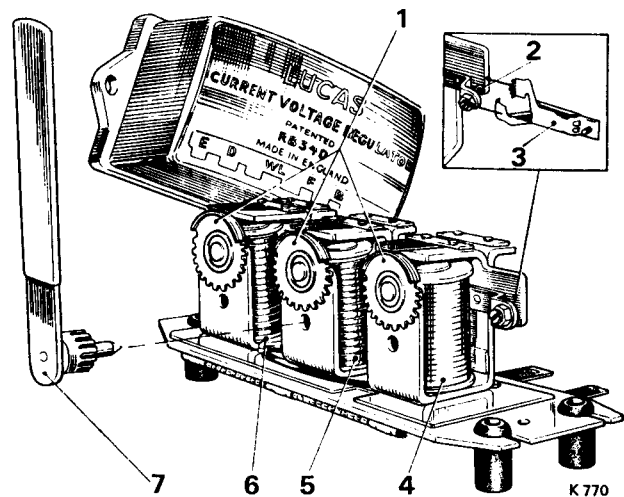

FIG. M45 ADJUSTING CURRENT REGULATOR
2. Using a 'Bulldog' clip, short out the contacts of the voltage regulator (see Fig. M45).